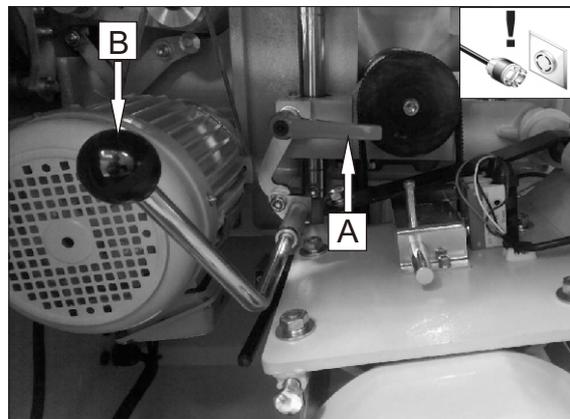

Fig.3-5-2
3. Loosen the adjustable handle (as A shown in Fig. 3-5-2).
4. Press down the handle (as B shown in Fig. 3-5-2) to lift the motor board to loosen the belt.
8. Push the handle (as B shown in Fig. 3-5-2) to lower the motor board to pull tightly the belt and lock the adjustable handle (as A shown in Fig. 3-5-2).